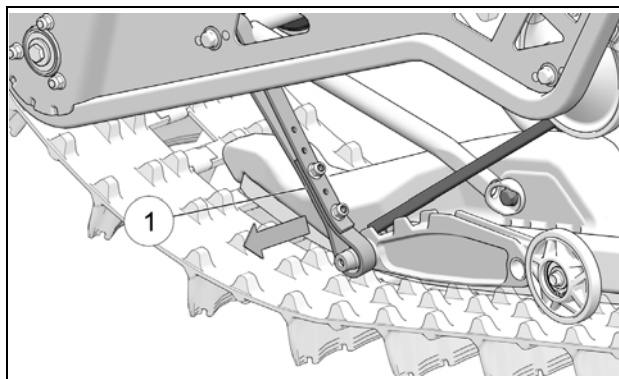

Figure 14
- Depress suspension to allow removal of limiter strap (1) from wheel shaft. See Figure 14.